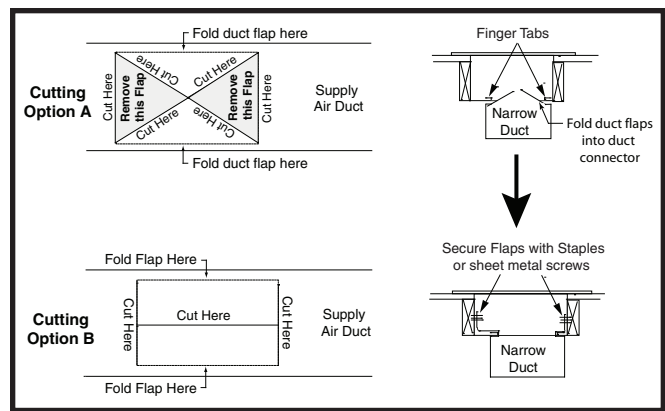

Figure 13. Narrow Air Ducts - Option 1
1. Select Option A or Option B in Figure 13 and cut the top of the supply air duct. Remove metal flaps from the duct (shaded area) if Option A is selected.
5. Form the duct flaps up against the side of the duct connector as tight as possible. See Figure 13.